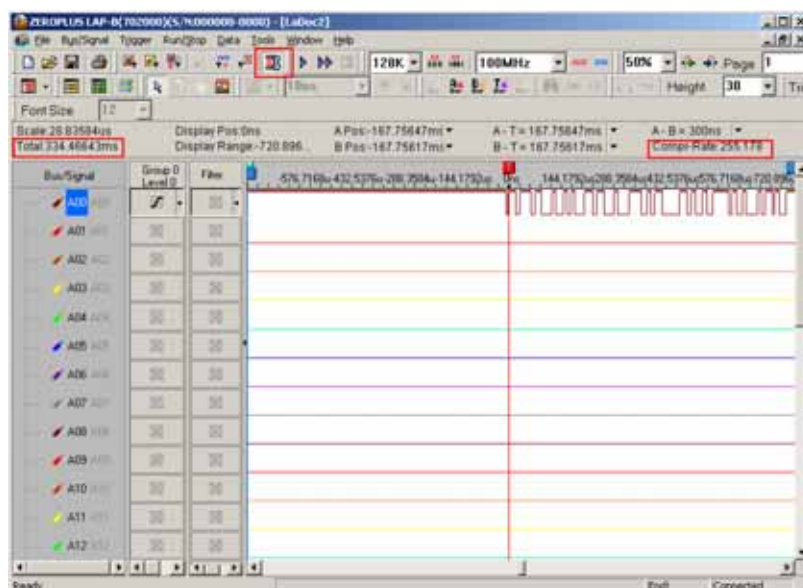

Fig 4-139 – Before and After Compression
Step 4. Click **Run**, and then activate the signal from the tested circuit to acquire the result on the waveform display area. Fig 4-139 shows the result before and after compression has been applied.